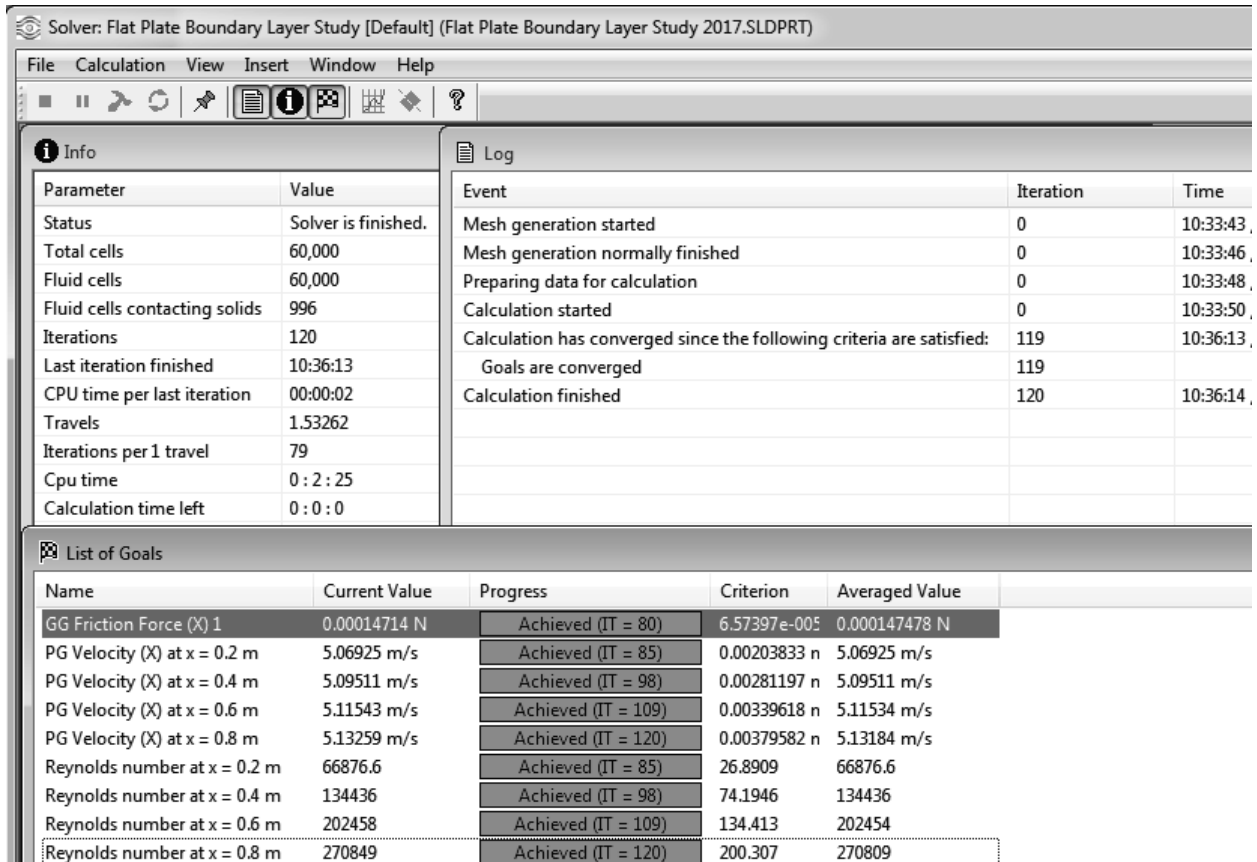
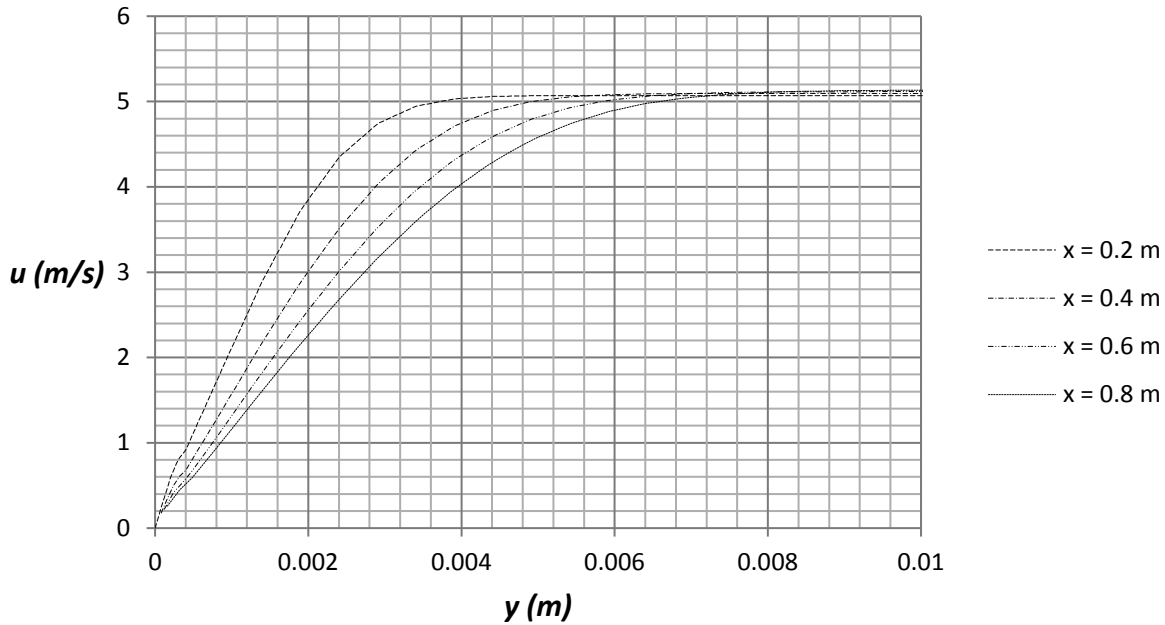
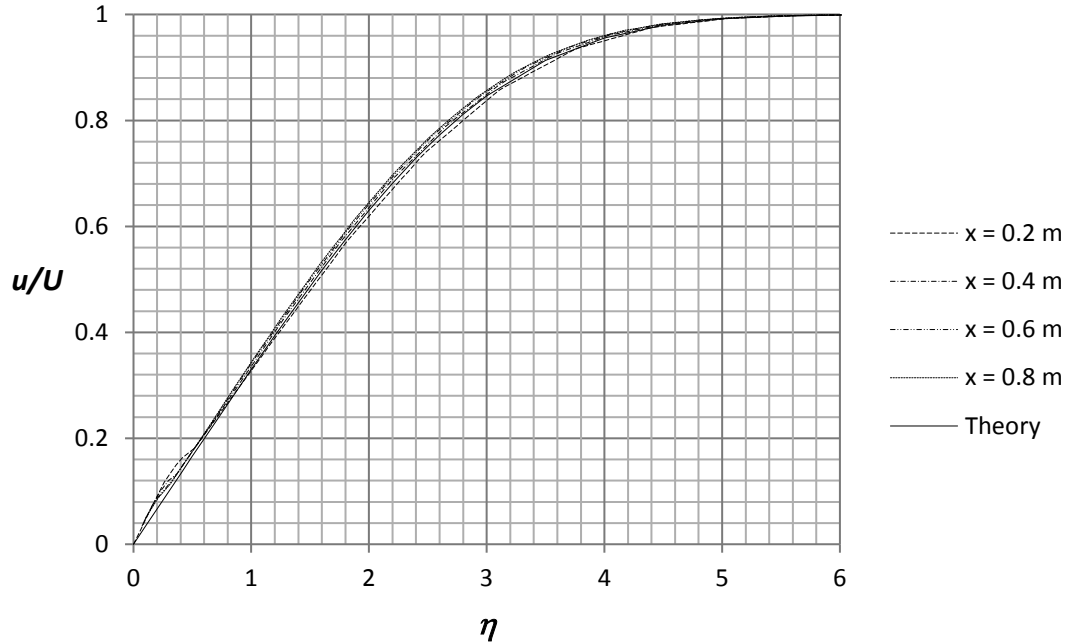

Figure 2.22c) Solver window
Figure 2.24c) Boundary layer velocity profiles on a flat plate at different streamwise positions
Figure 2.25a) Velocity profiles in comparison with the theoretical Blasius profile (full line)
Select **Module1** in the **Modules** folder under **VBAProject (graph 2.24c).xism**). Select **Run>>Run Macro** from the menu of the **MVB for Applications** window. Click on the **Run** button in the **Macros** window. Figure 2.24c) will become available in **Excel** showing the streamwise velocity component u (m/s) versus wall normal coordinate y (m). Close the **XY Plot** window and the **graph 2.24c**) window in **Excel**. Exit the **XY Plot** window in **SOLIDWORKS Flow Simulation** and rename the inserted xy-plot in the **Flow Simulation analysis tree** to **Laminar Velocity Boundary Layer**.
26. Place the file “**graph 2.25a**” on the desktop. Repeat step 24 to plot Figure 2.25a). Rename the xy-plot to **Comparison with Blasius Profile**.
We see in figure 2.25a) that all profiles at different streamwise positions collapse on the same Blasius curve when we use the boundary layer similarity coordinate.
From the data of figure 2.24c) we can see that the thickness of the laminar boundary layer is close to 3.80 mm at $Re_x = 66,877$ corresponding to $x = 0.2$ m. The free stream velocity at $x = 0.2$ m is $U = 5.069$ m/s, see figure 2.22c) for list of goals in solver window, and 99% of this value is $U_\delta = 5.018$ m/s. The boundary layer thickness $\delta = 3.80$ mm from Flow Simulation was found by
finding the y position corresponding to the U_δ velocity. This value for δ at $x = 0.2$ m and corresponding values further downstream at different x locations are available in the Plot Data for Figure 2.25a). The different values of the boundary layer thickness can be compared with values obtained using equation (2.3). In table 2.1 are comparisons shown between boundary layer thickness from Flow Simulation and theory corresponding to the four different Reynolds numbers shown in figure 2.24c). The Reynolds number varies between $Re_x = 66,877$ at $x = 0.2$ m and $Re_x = 270,849$ at $x = 0.8$ m.
The average friction coefficient over the whole plate C_f is not a function of the surface roughness for the laminar boundary layer but a function of the Reynolds number based on the length of the plate Re_L ; see figure E3 in Exercise 8 at the end of this chapter. This friction coefficient can be determined in Flow Simulation by using the final value of the global goal, the X-component of the Shear Force F_f , see figure 2.22c), and dividing it by the dynamic pressure times the area A in the X-Z plane of the computational domain related to the flat plate.